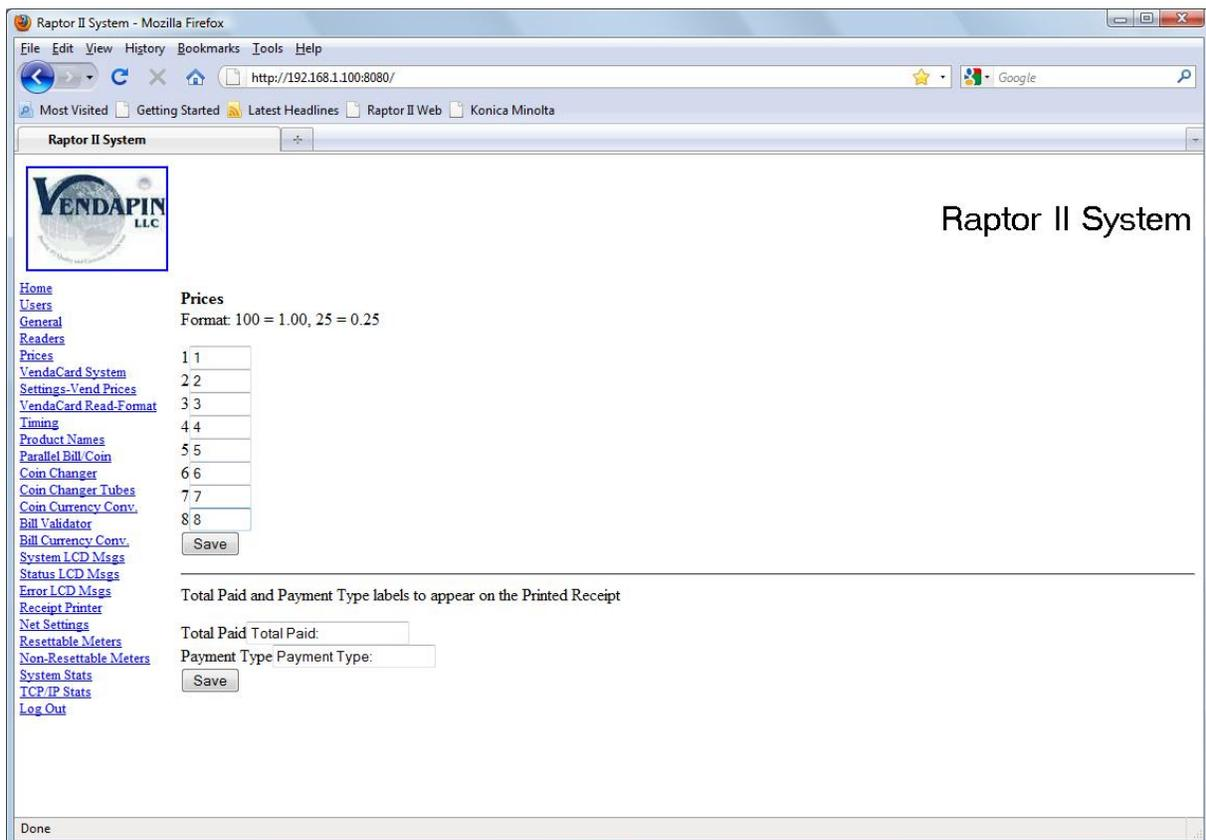

Figure 23
1. Click on the **Prices** link. Figure 23.